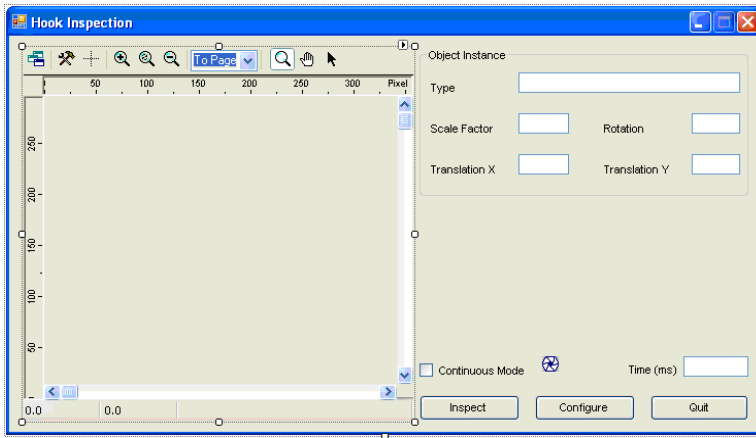

Figure 29 VB .NET Form for Tutorial 2
3. Click the **HSDisplay Control** icon and drag a small box on the form. Set the width to 378 and height to 365. The default name is `AxHSDisplay1`. Rename it *ApplicationDisplay*. The interface of the project is now complete and should look like the form in Figure 29.